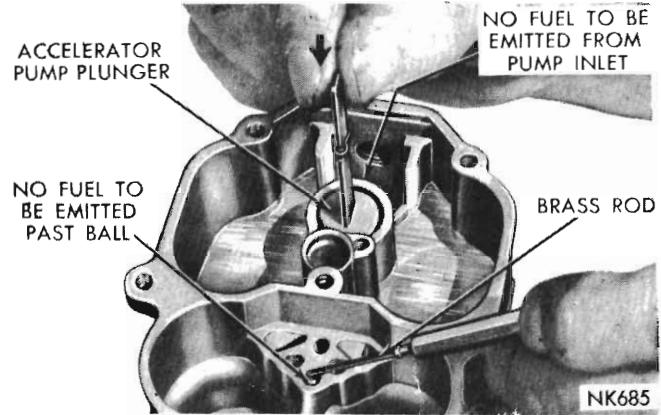

Fig. 7 - Testing accelerator pump intake and discharge check balls
(3) Pour clean gasoline into the carburettor bowl, approximately 1/2 inch deep. Remove the pump plunger from the jar of gasoline and slide down into the pump cylinder. Raise the plunger and press lightly on the plunger shaft to expel air from the pump passage.
(4) Using a small clean brass rod, hold the discharge check ball down firmly on its seat. Again raise the plunger and press downward. No fuel should be emitted from either the intake or discharge passage, as shown in (Fig. 7). If any fuel does emit from either passage, it indicates the